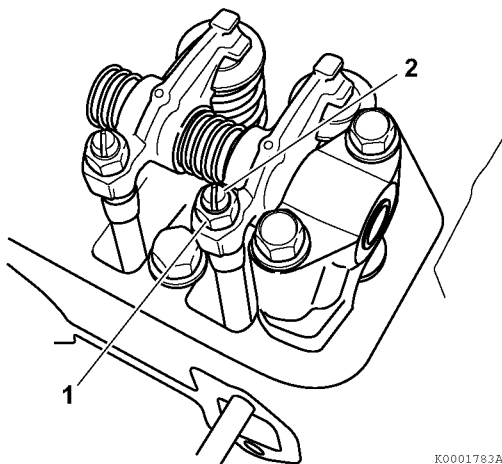

Figure 6-36
5. Loosen the valve adjusting screw lock nut (**Figure 6-36, (1)**) and valve adjusting screw (**Figure 6-36, (2)**) on the rocker arm. Check the valve for inclination of the valve cap, entrance of dirt, or wear.
6. Insert a feeler gauge of the correct thickness (**Figure 6-37, (1)**) between rocker arm and valve cap. Turn the valve adjustment screw to adjust the valve clearance so there is a slight "drag" on the feeler gauge when sliding it between the rocker arm and valve cap. Hold the adjusting screw while tightening the valve adjusting screw lock nut (**Figure 6-36, (1)**). Recheck the clearance (see *Adjustment Specifications on page 6-4*).